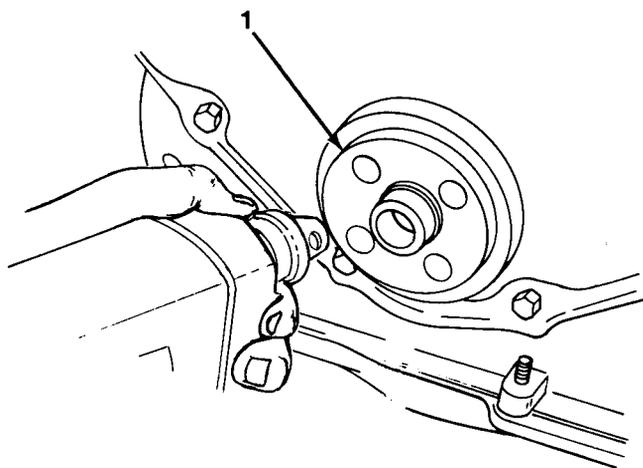

Figure 6-1
1. Remove front seal (1, Figure 6-1) with front cover removed (refer to page 6-17).